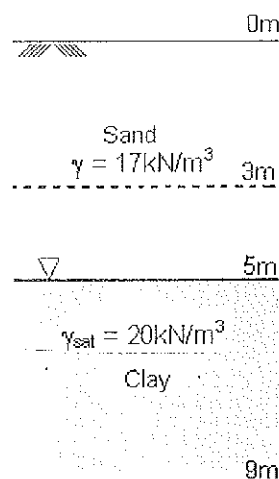

Figure A4
- The increase in vertical effective stress due to lowering of ground water table from 3m to 5m elevation (refer Figure A4) is: